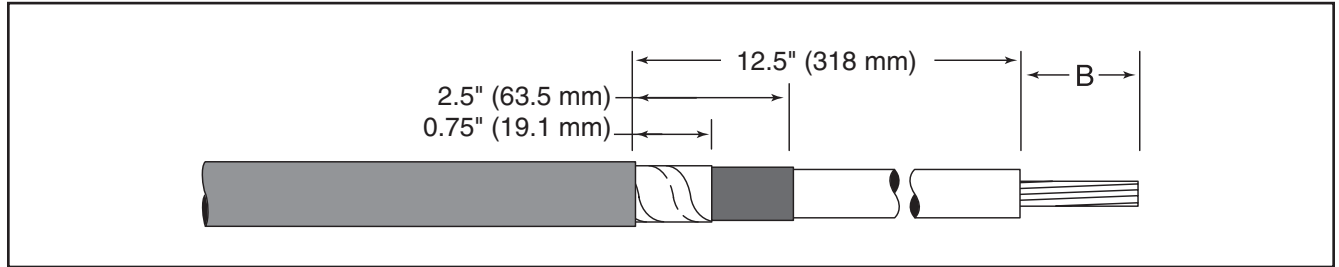

Figure 10
- 4.1 Prepare cable phase legs according to dimensions shown (*Figure 10*). “B”=Lug or connector barrel depth. Allow for crimp growth when using aluminum lugs or connectors.